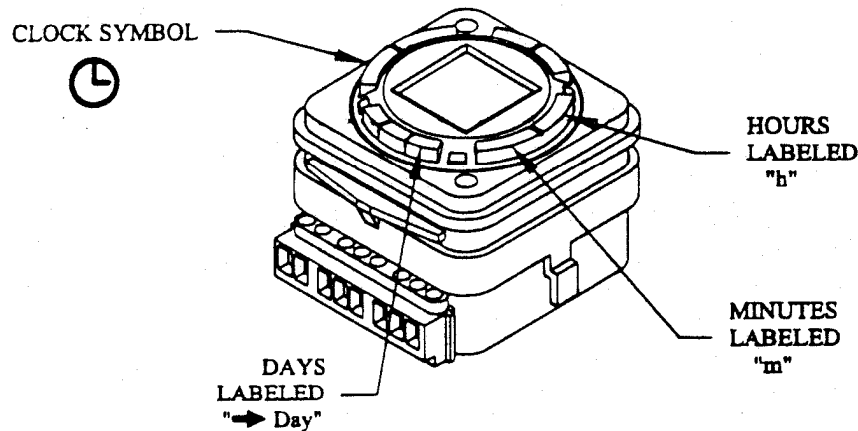
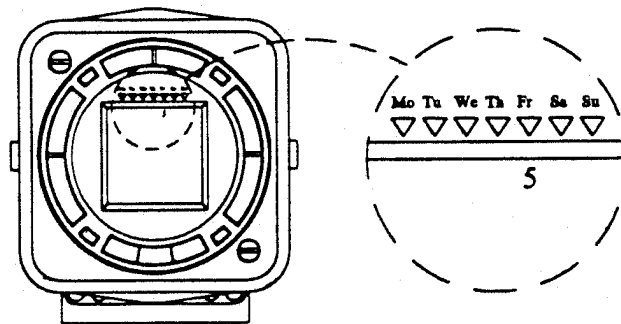

FIG. 1
FIG. 2
STEP 1. Press and hold down the clock symbol, while setting the hour, minute and day. Press the hour button, labeled "h", as many times as needed to enter the current hour. See Fig. 1. If the desired hour gets passed over, keep pressing the hour button, it will cycle around but there is no reverse.
STEP 2. Continue holding the clock symbol down. Press the minute button, labeled "m", as many times as needed (or hold button down for rapid advancement) to enter the current minute(s). See Fig. 1.
STEP 3. Continue holding the clock symbol down. Press the day button, labeled "day" with an arrow to the left of it. See Fig. 1. A number will be displayed beneath one of the days such as a "1" under "Mo" for Monday or "5" under "Fr" for Friday. See Fig. 2. Press the day button as many times as needed to enter the current day of the week. Days will cycle back through if desired day gets passed over.